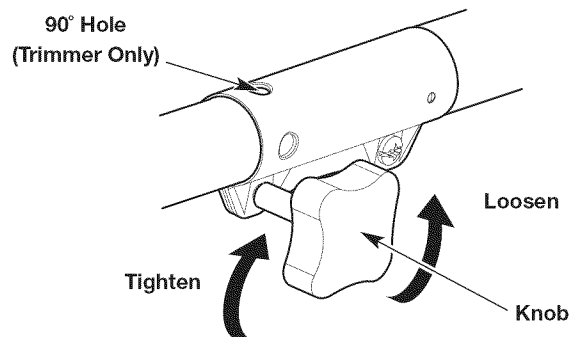

Fig. 4
3. Turn the knob counterclockwise to loosen the coupler (Fig. 4).
6. Turn the knob clockwise to tighten the coupler (Fig. 4).
**NOTE:** For decorative trimming with a string trimmer attachment, lock the release button into the 90° hole (Fig. 4).
2. Turn the knob counterclockwise to loosen the coupler (Fig. 4).